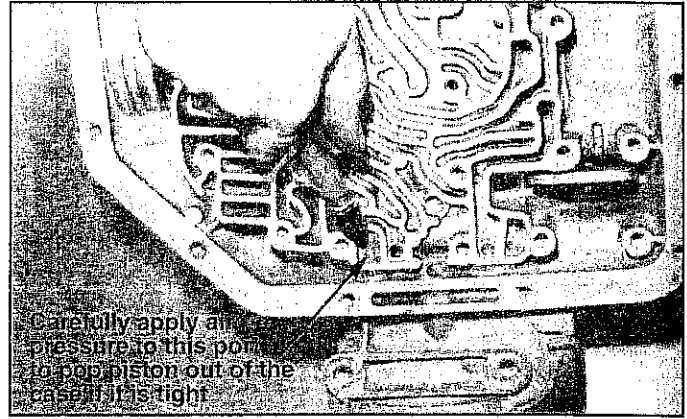

FIGURE 21
STEP 28. Remove the low-reverse clutch piston. You can remove the piston with a pair of pliers if you are careful. If the piston is tight in the bore, apply air pressure to the reverse oil port in Figure 21 to pop the piston out of the case. Be careful when using air pressure not to splatter oil or injure yourself. Remove and discard the three rubber seals on the piston. Set piston aside.